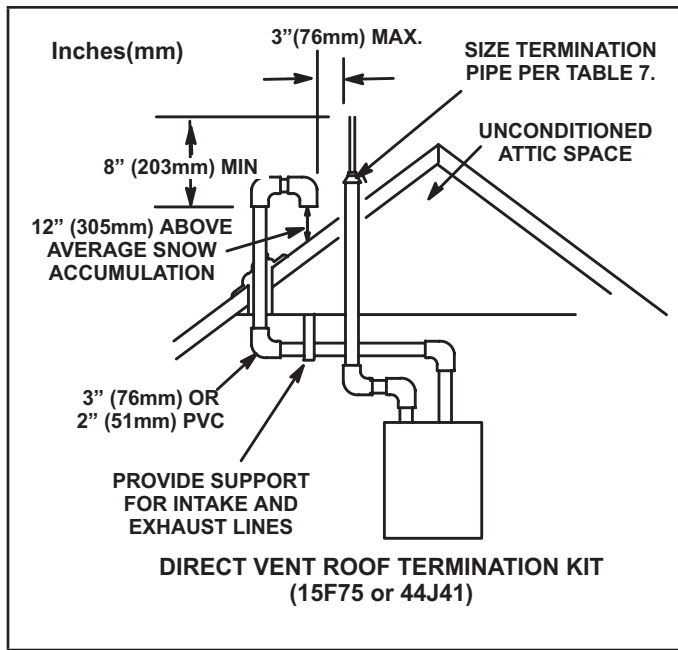

FIGURE 31
Intake and exhaust pipes may be routed either horizontally through an outside wall or vertically through the roof. In attic or closet installations, vertical termination through the roof is preferred. FIGURE 31 through FIGURE 38 show typical terminations.
- 3 - On roof terminations, the intake piping should terminate straight down using two 90° elbows (See FIGURE 31).